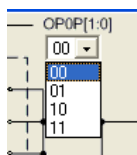

Figure 3-35
- (1) Click the network by mouse, OP0P can select the specified network.
- (2) Click the network switch by mouse, OP0P can select the specified network.
- (3) Click the mouse, a menu as Figure 3-35 will appear. Users can select the specified switch network.